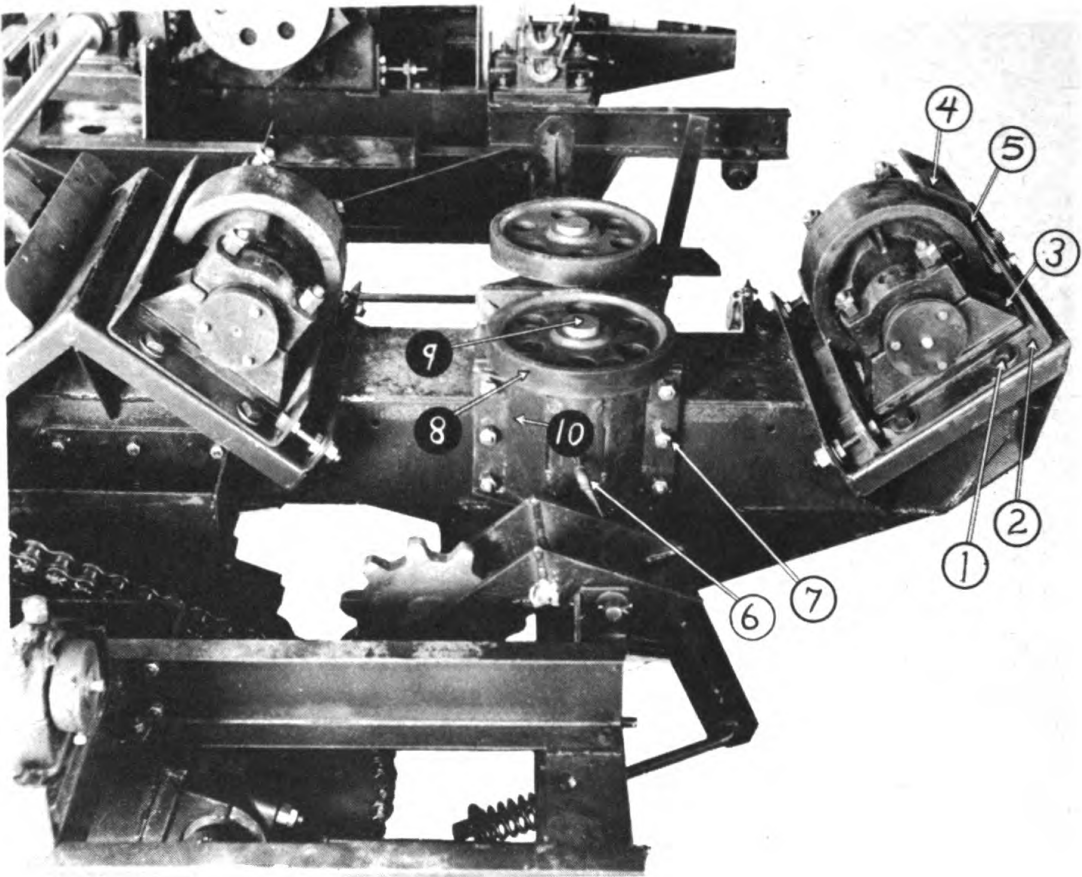

FIGURE 106
2. Remove four bolts (1), Fig. 106 from pivot plate (2).
4. Remove two hold-down bolts (3), from both bearing bases and remove both bearings.
5. Remove roller guard plate (4).
6. Slide roller uphill through hole provided in the trunnion support (5).
The thrust rollers must be removed to permit stripping. This is done by removing the alemite piping (6) Fig. 106 and the six hold-down bolts (7). To strip shaft, loosen set screws that secure the roller (8) to the shaft (9), remove roller and pull shaft out of bearing (10).